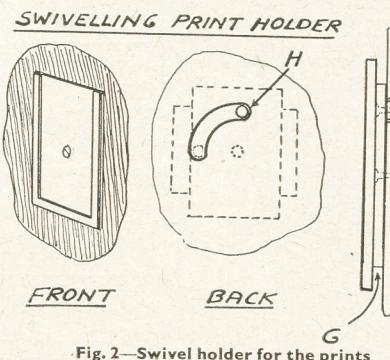

Fig. 2—Swivel holder for the prints
To fit the holder, first glue the spacer (G), 3ins. by 2ins., (Fig. 2), at the back to allow countersinking the head of the screw that secures the frame to the back and upon which it rotates. If the head is not countersunk it will catch the prints as they are slipped in and out.
Finally, as far as this part is concerned, fit the knob (H) and cut a circular channel for it in the back, shown also in Fig. 2, so the holder can be readily turned. When fitting on to the back, the central screw should, of course, be right opposite the mid point of the reading glass.